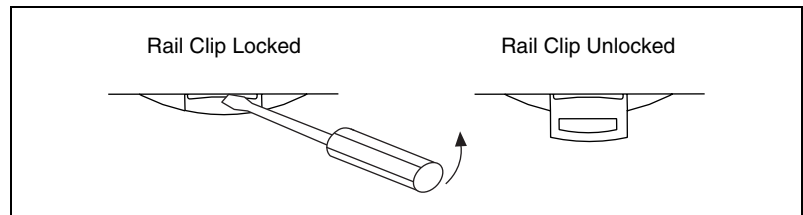

Figure 2-1. DIN Rail Clip
1. Use a flat-bladed screwdriver to open the DIN rail clip to the unlocked position, as shown in Figure 2-1.
3. Slide the FP-3000 to the desired position along the DIN rail. After the FP-3000 is in position, lock it to the DIN rail by pushing the rail clip to the locked position, as shown in Figure 2-1.
To remove an FP-3000 network module, unlock it from the DIN rail by placing a screwdriver in the slot on the rail clip and opening it to the unlocked position, as shown in Figure 2-1. Then, disconnect the FP-3000 from the local bus connector of the terminal base, and lift the FP-3000 off the rail. You should also remove the module from the terminal base to the right since it has a clip that snaps into the base to its left.
1. Use a flat-bladed screwdriver to open the rail clip to the unlocked position, as shown in Figure 2-1.
3. Lock the panel mount accessory into place by pushing the rail clip to the locked position, as shown in Figure 2-1.